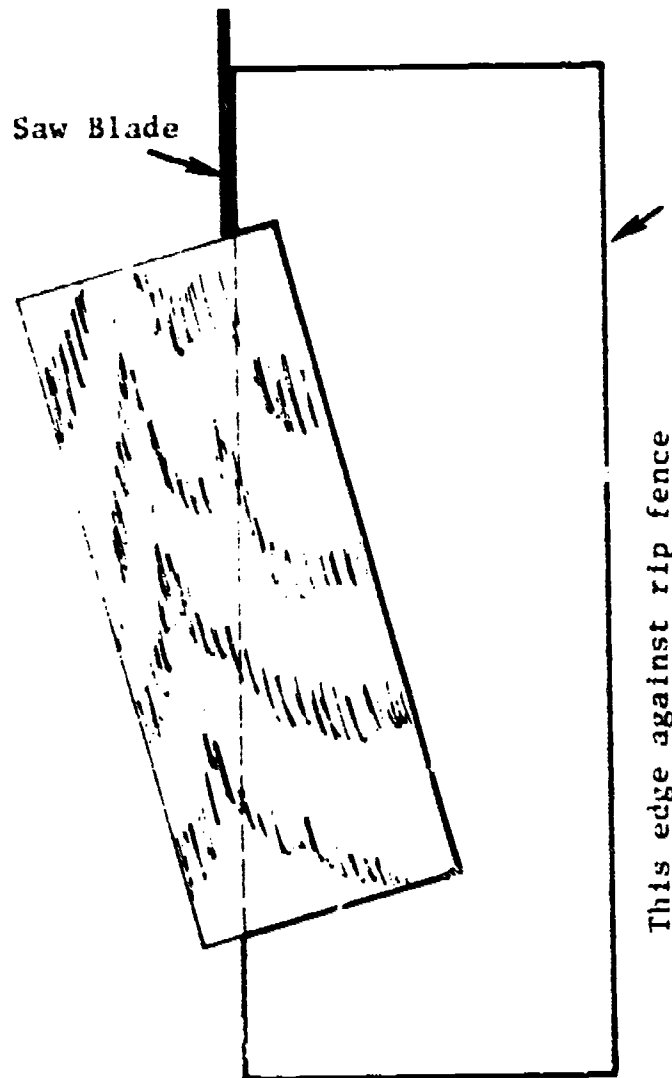

Fig. 3
2. Place cut 51 mm x 101.5 mm in jig and position upper left corner of jig so it just touches the blade on the table saw. Move rip fence so it touches the right side of jig. Make cut (Fig. 3)